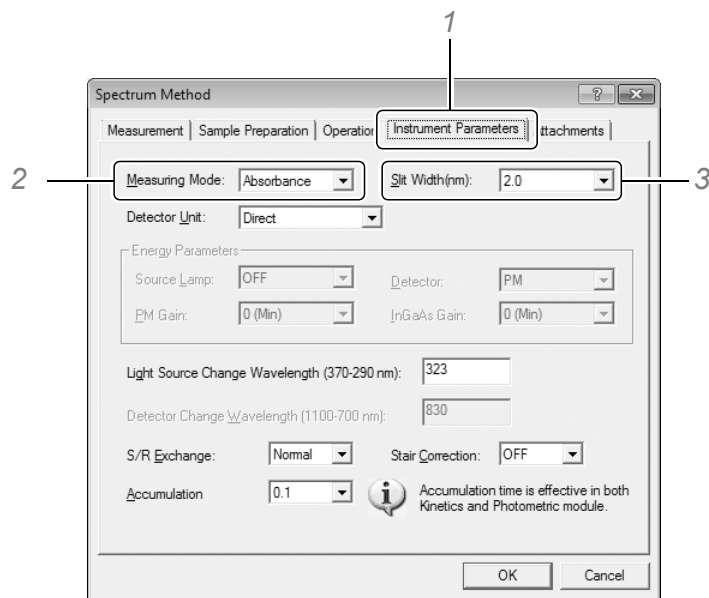

Figure 3. Instrument Parameter.
- (1) Click the [Instrument Parameters] tab (Fig.3).
- (2) Use the [▼] key to select the appropriate measuring mode.
- (3) Use the [▼] key to select the appropriate slit width.
- (4) Click [OK]